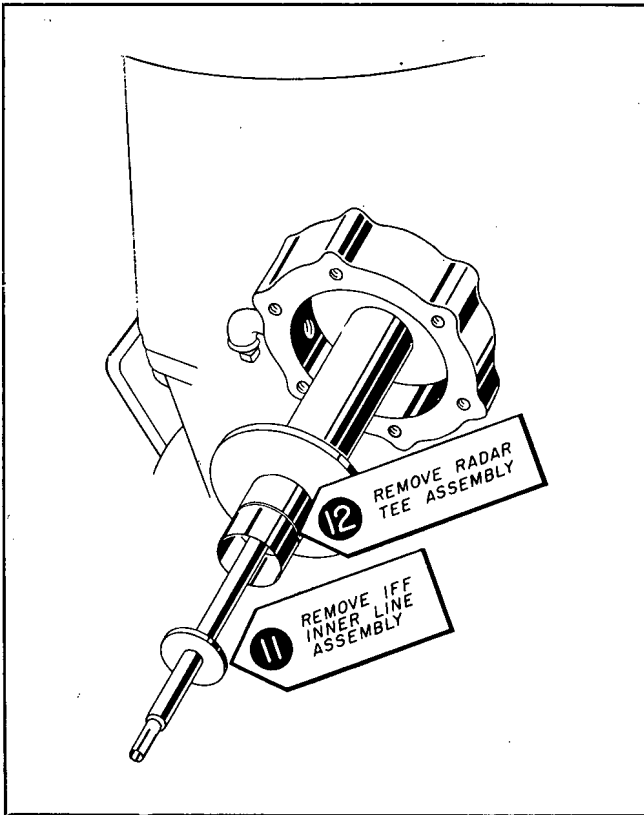

Figure 7-94. Removing Lines from Base of Pedestal
(6) Steps 11 and 12 in Fig. 7-94 show the removal of the lower sections of line from the base of the Pedestal. These parts slip out easily after the upper sections of line have been removed. When replacing these sections place the large radar section in place first and then insert the vertical radar section into place. In order to align the lower section so that the upper section will fit into it, it is necessary to shine a flashlight into the side of the Pedestal and look down through the top to see when the lower section is properly centered.